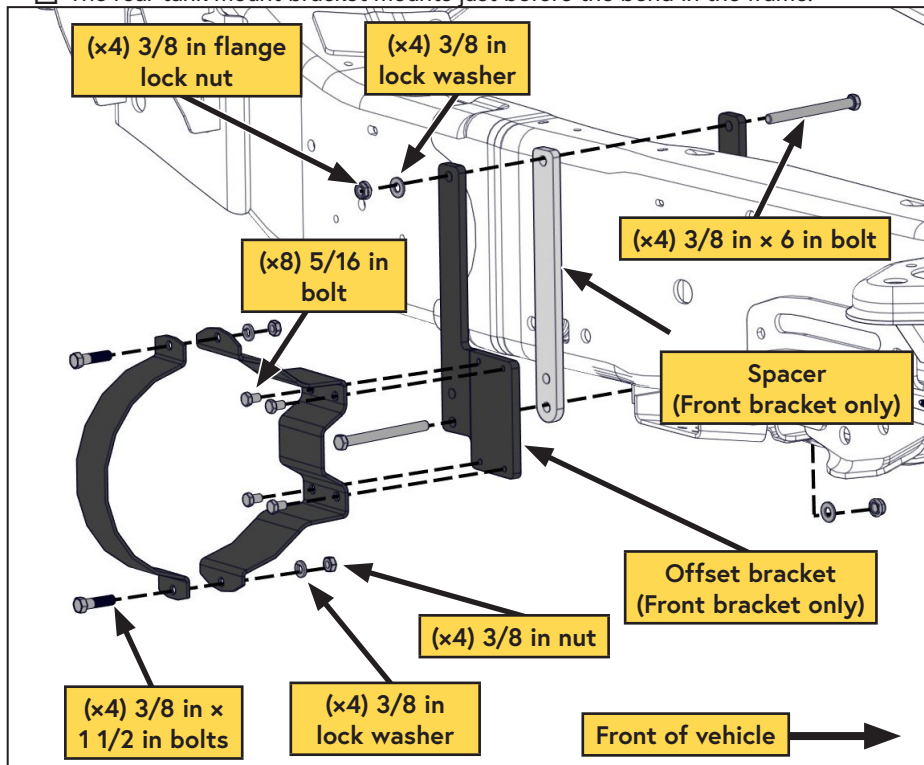

Figure 36 — Installing the AOST
Install the tank mounting brackets on the frame (Figure 36):
- ☐ Install the front and rear tank straps onto the frame mount brackets (Figure 36).